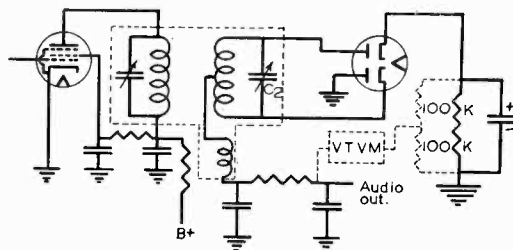

Fig. 9. Typical ratio detector stage.
Where a ratio type detector is used, the circuit will probably appear somewhat similar to that shown in Fig. 9. In this case, the alignment procedure will be as follows:
4. Next, connect the high resistance voltmeter from the juncture of the 100,000 ohm resistors to the audio output of the ratio detector. These connections are indicated by dotted lines on the schematic in Fig. 9.
5. Adjust the output trimmer condenser (or iron core slug), in the output of the transformer assembly for a zero meter reading (C_2 in Fig. 9). The meter should register reversed polarity when the trimmer is rotated through a zero output.